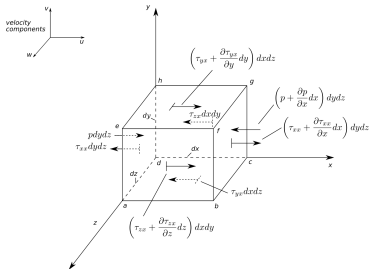
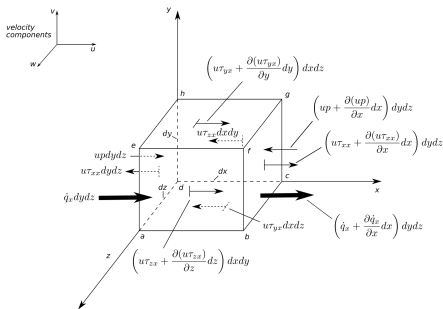

Figure 3: A moving infinitesimal fluid element with forces in the x-direction.
Figure 4: A moving infinitesimal fluid element with energy fluxes in the x -direction.
- The stress tensor is denoted here by $\boldsymbol{\tau}$, and its individual components by τ_{ij} . This is a stress acting in the j -direction on a face normal to the i -axis (e.g. τ_{zx} in figure 3 is acting in the x -direction on a face normal to the z -axis, or face abfe).
- Figure 4 depicts a moving infinitesimal fluid element with energy fluxes in the x-direction, and is the energy equivalent of the forces fluid element of Figure 3 that we used to derive the momentum equation.
- Figure 4 uses the same conventions as Figure 3.
- We will use figure 4 to derive the energy equation, a statement of *the first law of thermodynamics, which states that the rate of change of energy in a fluid element equals the net flux of heat into the element plus the rate of work done by body and surface forces.*
- For the pressure and shear forces in the x-direction shown the rate of work would be the force multiplied by the x-component of velocity, as shown explicitly in figure 4 as energy fluxes.
- Defining \dot{q}_x as the rate of heat transfer by thermal conduction in the x-direction and based on figure 4 we can determine the net heat transferred by thermal conduction in the x-direction across faces adhe and bcgf (thick black arrows) as,